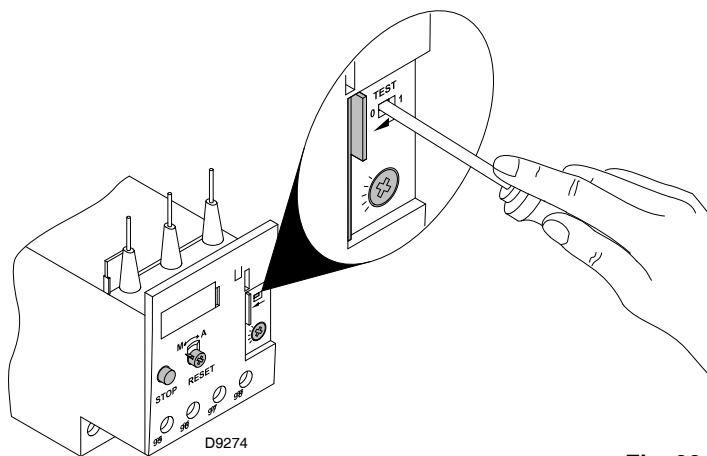

Fig. 22
- To test the thermal relay, insert a screwdriver in the window “TEST” (Fig. 22) and move it in the sense of the arrow (towards right).